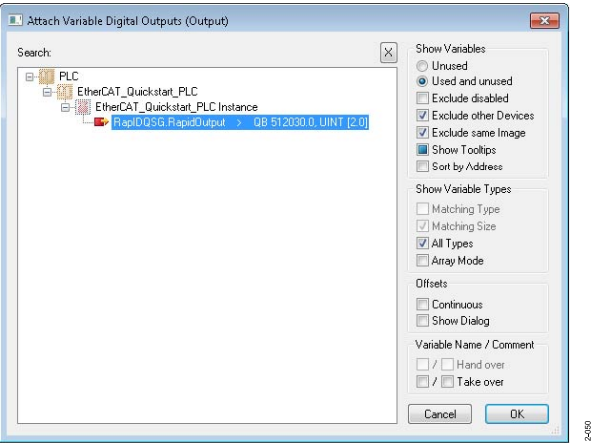

Figure 54. Rapid Digital Outputs
12. Under **Digital Outs**, right-click **Digital Outputs** and select **Change Link**. The message similar to what is shown in Figure 54 will appear. Select **RapIDQSG.RapIDOutput** and click **OK**.